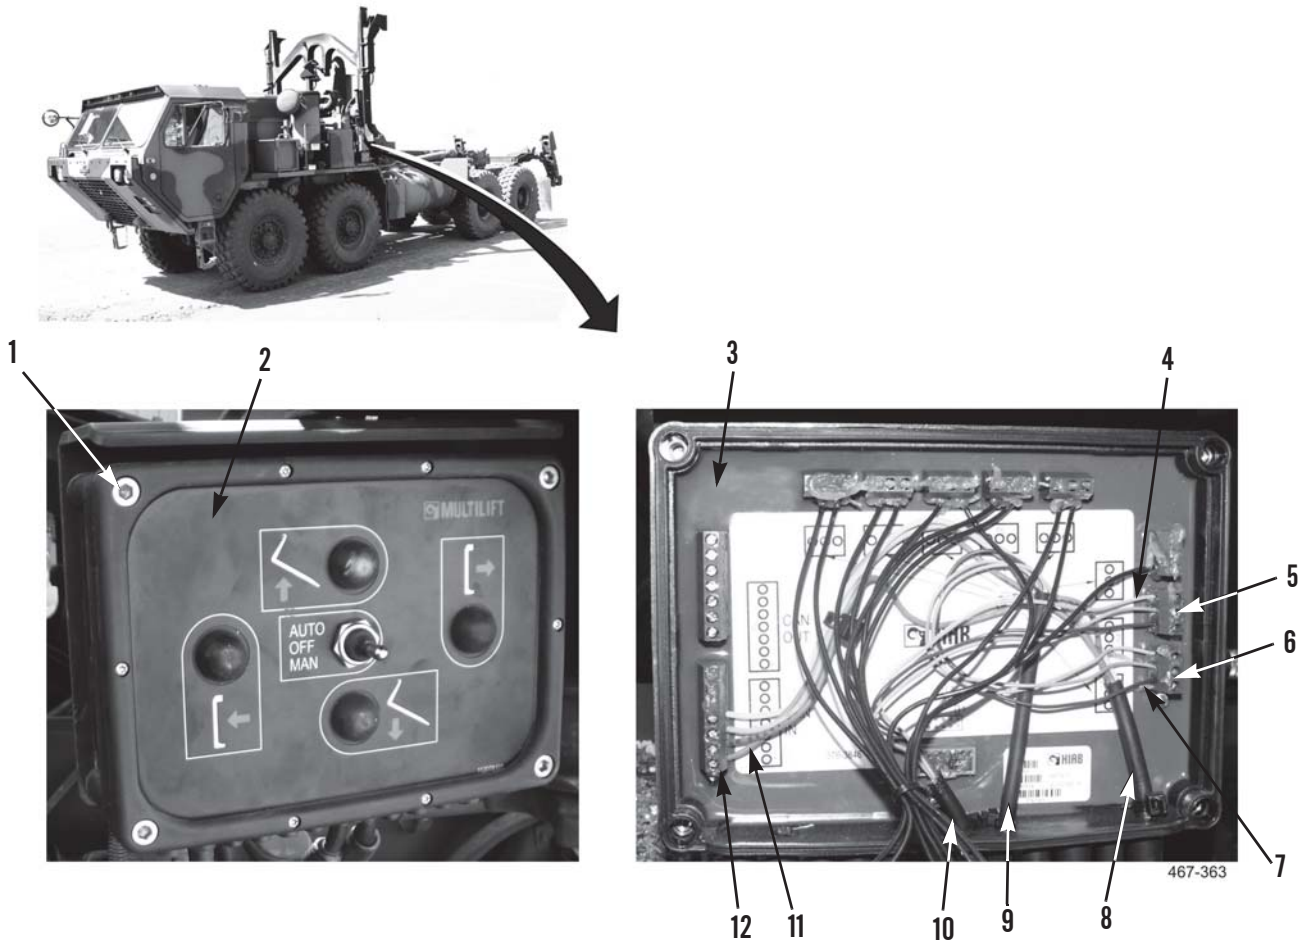

Figure 1. Stowage Control Unit Harness Removal.
1. Loosen four bolts (Figure 1, Item 1) and remove cover (Figure 1, Item 2) from stowage control unit (Figure 1, Item 3).
2. Remove yellow, orange, red, and brown wires (Figure 1, Item 11) from connector P1 (Figure 1, Item 12) in stowage control unit (Figure 1, Item 3).
3. Remove CAN bus wiring harness (Figure 1, Item 8) from stowage control unit (Figure 1, Item 3).
4. Remove blue, brown, and black wires (Figure 1, Item 4) from connector P9 (Figure 1, Item 5) in stowage control unit (Figure 1, Item 3).
5. Remove LH twistlock wiring harness (Figure 1, Item 10) from stowage control unit (Figure 1, Item 3).
6. Remove blue, brown, and black wires (Figure 1, Item 7) from connector P10 (Figure 1, Item 6) in stowage control unit (Figure 1, Item 3).
7. Remove RH twistlock wiring harness (Figure 1, Item 9) from stowage control unit (Figure 1, Item 3).